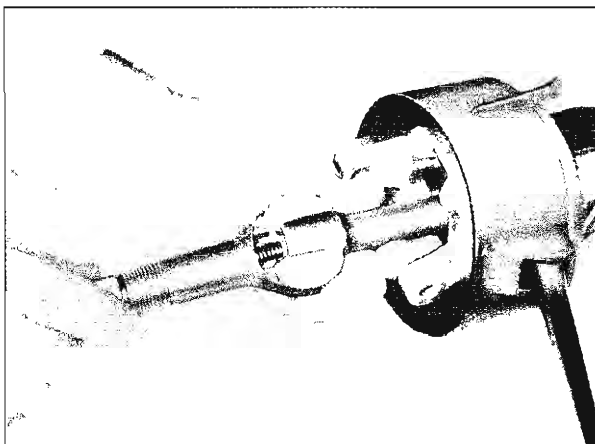

Fig. 33—Steering Shaft Installation
6. Install the steering shaft assembly into the upper end of the mast jacket (fig. 33).